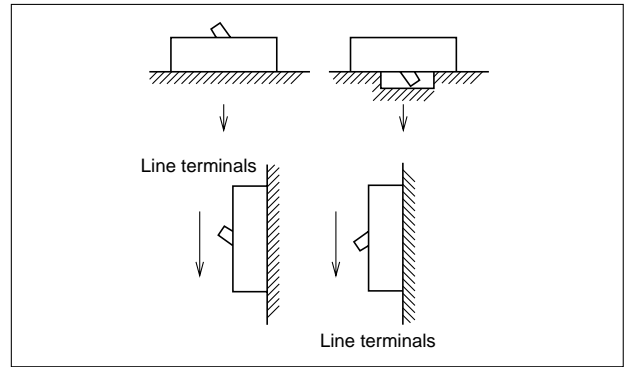

Fig. 8.2 Drop-Test Attitudes
1. MCCBs are drop-tested, as described in Fig. 8.2.